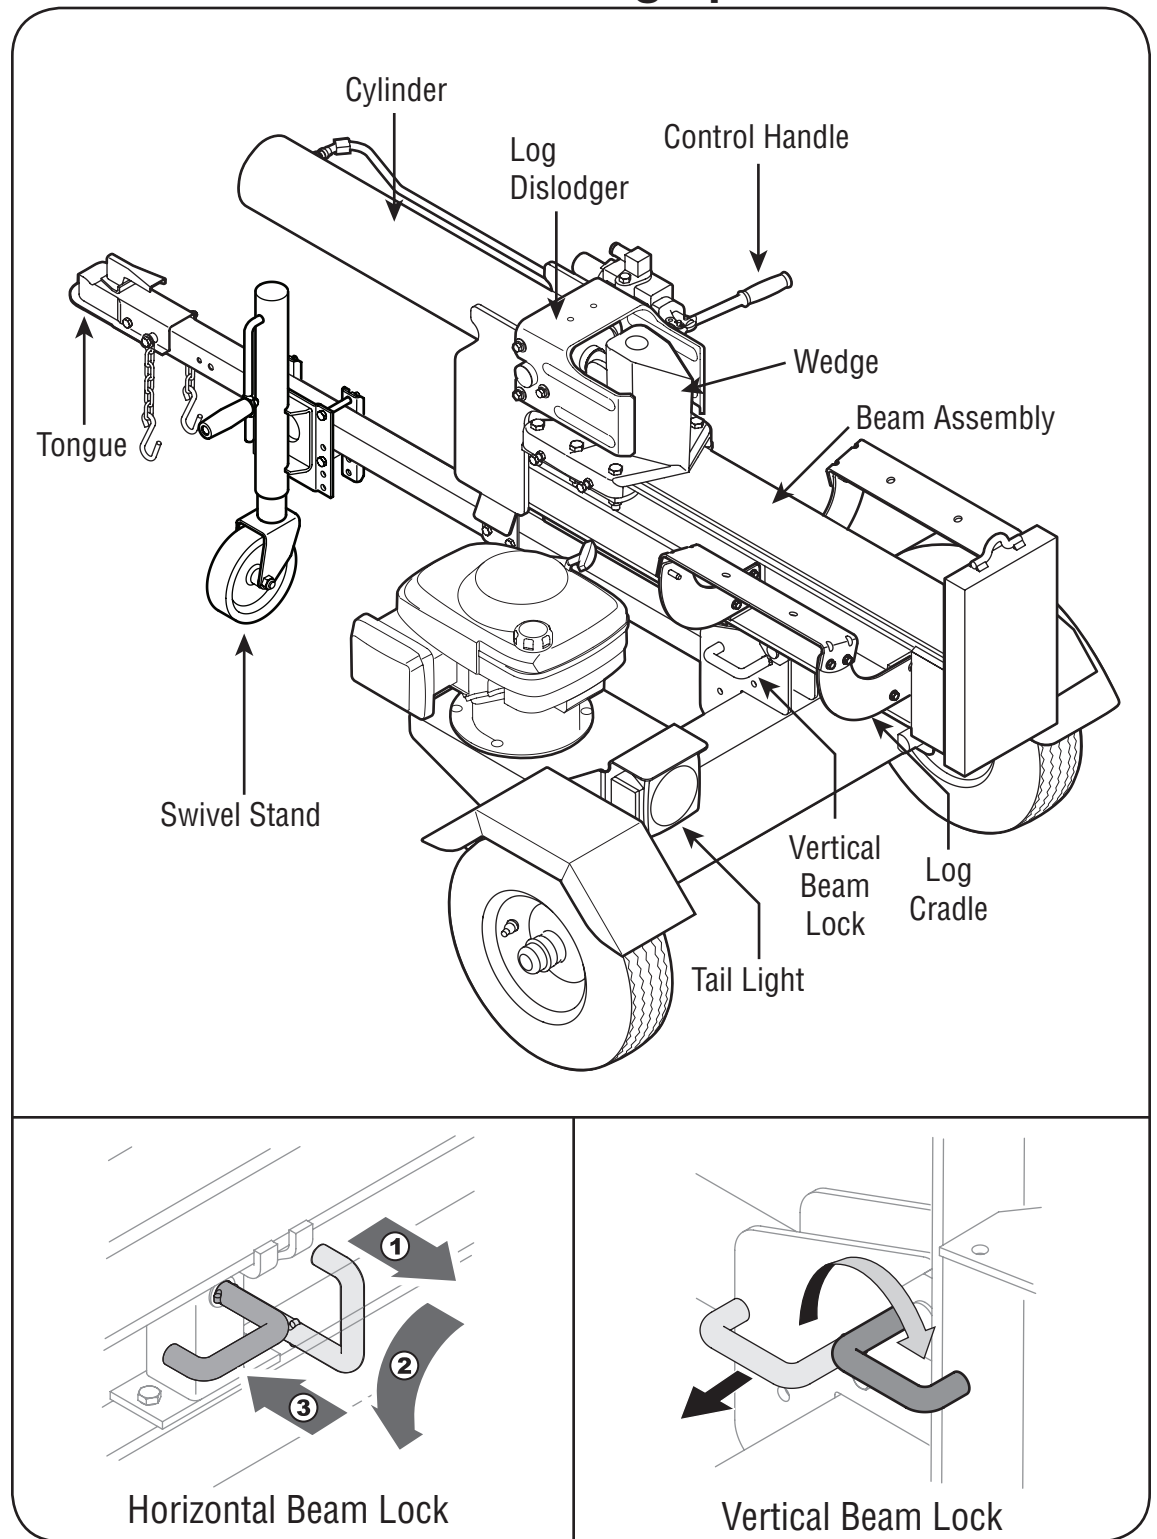

Figure 4-1
These two locks, as their name suggests, are used to secure the beam in the horizontal or the vertical position. The vertical beam lock is located next to the oil filter. The horizontal beam lock is located on the beam support latch bracket. See Figure 4-1.
2. To lock the beam in the vertical position, pull out on the vertical beam lock and rotate it to secure the beam. See Figure 4-1.
1. Pull the vertical beam lock out and rotate it down. See Figure 4-1. Pivot beam to the horizontal position. The beam will lock automatically in horizontal position.